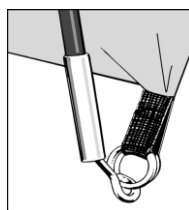

Figure 1.
- Locate the end of each long diagonal pole at the front of the tent into the metal pin system attached to the groundsheet. (see figure 1) Make sure poles locate into correct pin system (all poles follow corresponding flysheet seams to pin system). Loosen any tension straps attached to the pin system.
1. Locate one end of each pole onto the corresponding metal pin. The metal pin inserts into the hollow metal ferrule on the end of each pole. (See Figure 1). Push the pole into a curve from the opposite side, one at a time, and locate all pole ends onto the metal pins.